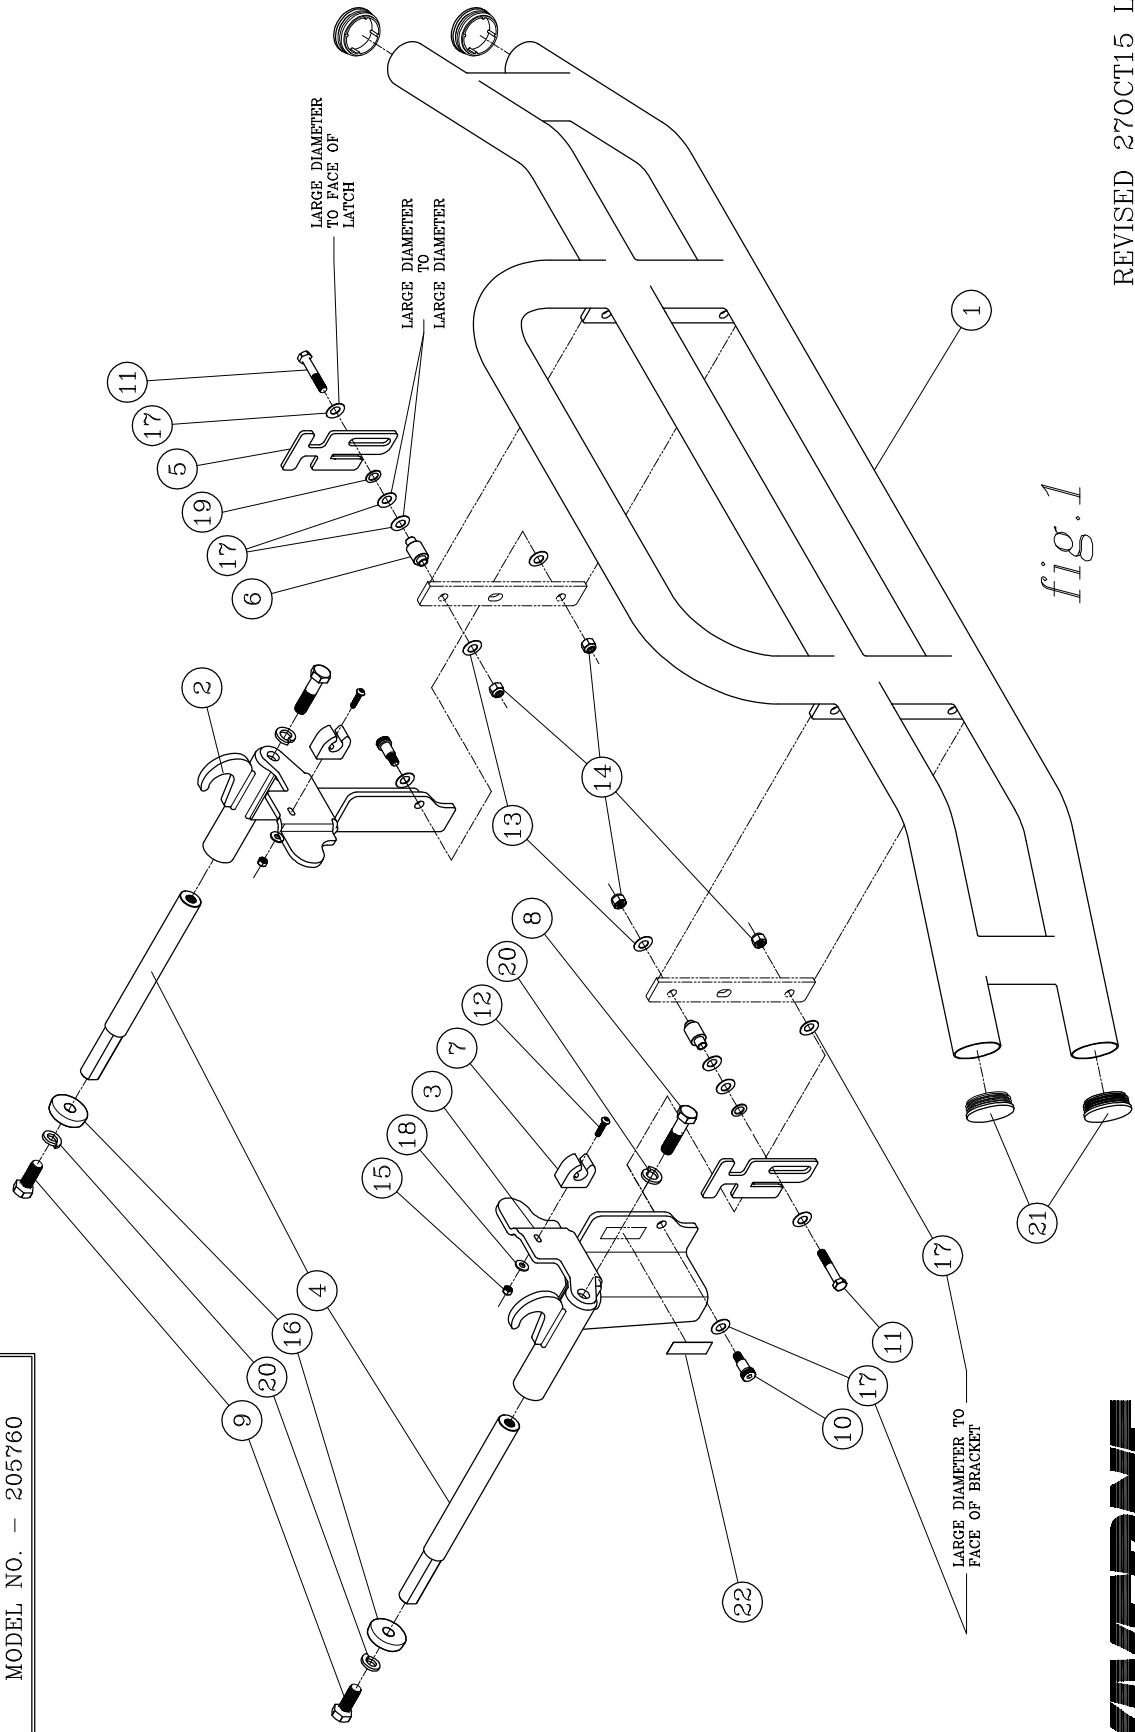

fig.1
3. USING THE 5/16"-18 X 1-1/4" BUTTON HEAD SCREWS (ITEM #12), 5/16" FLAT WASHERS (ITEM #18) AND 5/16"-18 NYLOCK NUTS (ITEM #15), ATTACH THE RUBBER STOPS (ITEM #7) TO THE MOUNTING BRACKETS AS SHOWN IN *fig 1*.